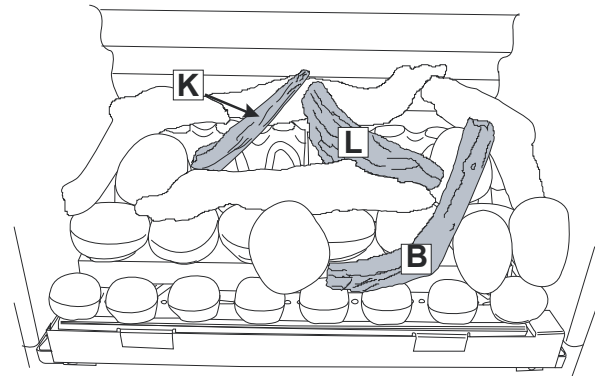
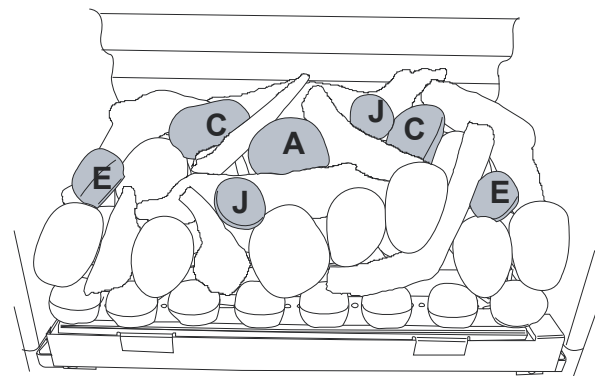

Figure 35
Figure 37
7. Continue laying the driftwood pieces and the pebbles as shown in **Figure 35** to **Figure 37**.